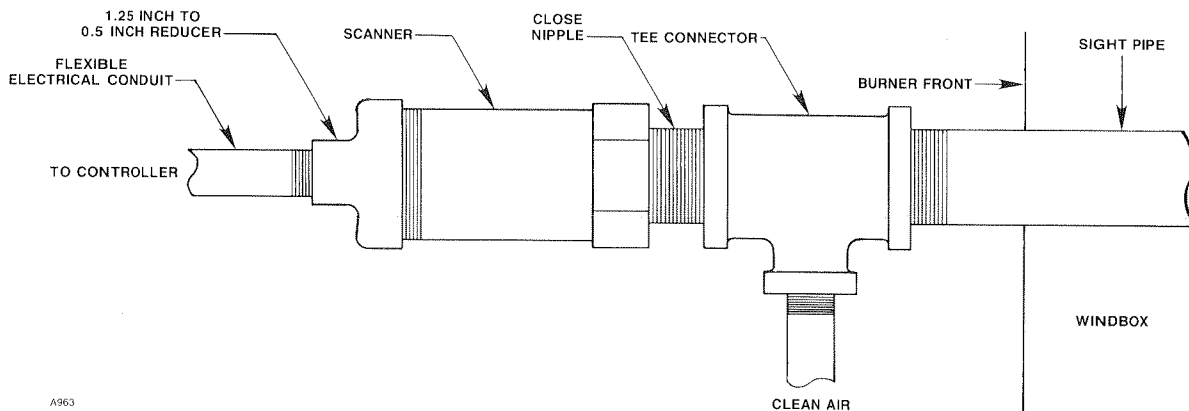

Figure 2—Scanner Mounting
3. Place a reducer tee fitting and close nipple at the end of the sight pipe (refer to Figure 2). Attach the purge air source to the tee. The purge air supply must be oil-free and dry. The air pressure should be slightly greater than furnace pressure to keep debris out of the sight pipe and away from the sensor tube surface. Special precautions should be taken in pressurized furnace applications. Consult the factory for further assistance.